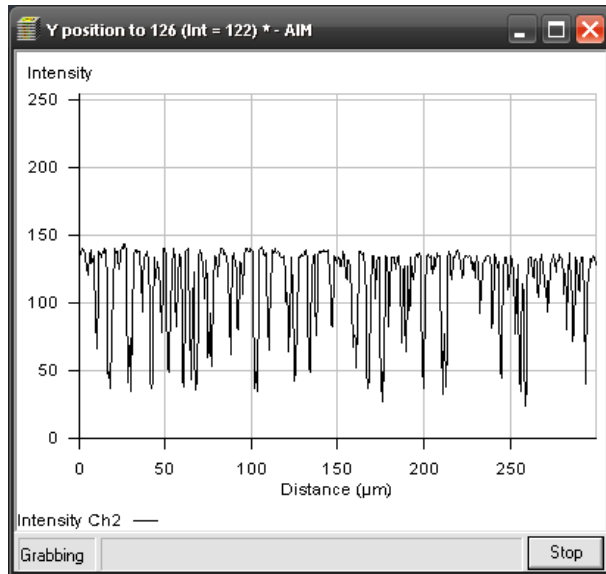

Fig. 159 Pinhole adjustment scan window
- Pinhole adjustment will then run automatically and the Scan window will appear (see Fig. 159). The adjusting procedure takes approx. 3 min.